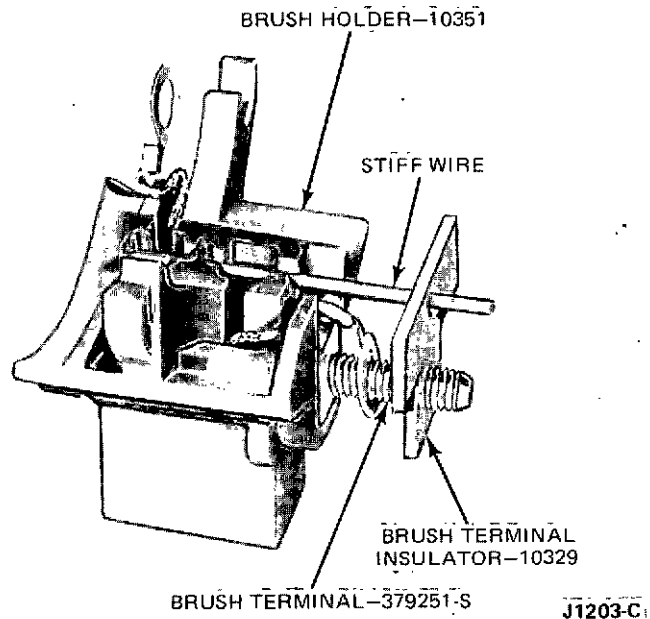

Fig. 20 - Brush Holder Assembly
6. Place the brush springs, brushes, brush terminal and terminal insulator in the brush holder and hold the brushes in position by inserting a piece of stiff wire in the brush holder as shown in Fig. 20.